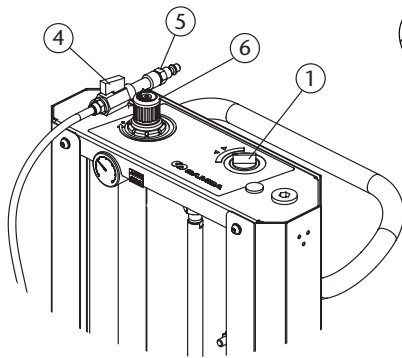

Fig. 8
1. Switch the lifter control (pos. 1) to "down" position. The pump will be primed while the actuator compresses the grease (fig. 8).
2. Start the pump opening the pumps valve (pos. 4), and increasing the pressure with the regulating filter gradually. The pump starts operating. Be aware that the pressure in the pump is the air line one.
When the amount of the remaining grease in the pail is ending, the pump starts to work very quickly. Stop your work immediately closing the pump air inlet (pos. 4) (fig. 8). Remember that the lifter is still connected to the air inlet pressure. To remove the pail: